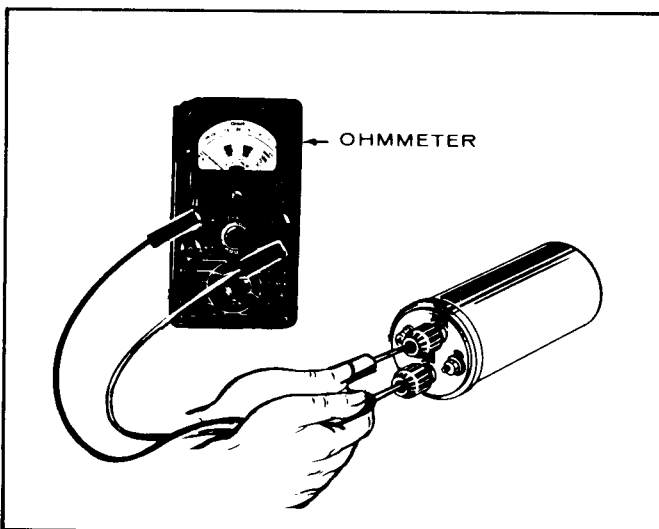

FIGURE 37. TESTING COIL
3. Change resistance setting on ohmmeter. Place ohmmeter leads inside spark plug cable holes (Figure 37). Secondary resistance should read 14,000 ($\pm 10\%$) ohms.